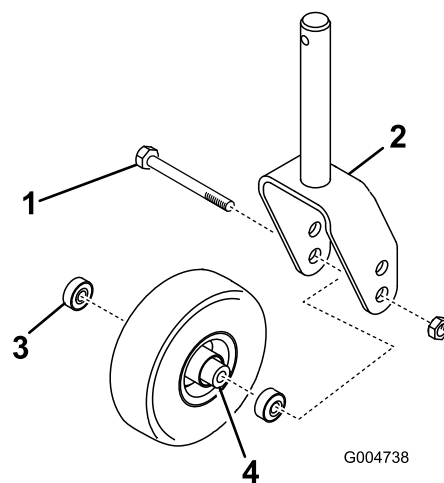

Figure 97
1. Remove the locknut from the bolt holding the castor wheel assembly between the castor fork (Figure 97) or
2. Remove the bearing from the wheel hub and allow the bearing spacer to fall out (Figure 97). Remove the bearing from the opposite side of the wheel hub.